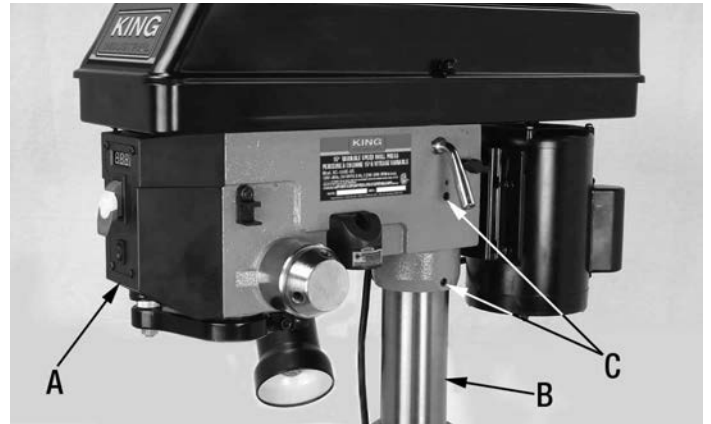

FIGURE 9
- 1) Carefully lift the head (A) Fig.9 above the column (B) and slide it down on the column as far as it will go. Align the head with the table and the base.
- 2) Using a 5 mm hex. key, tighten both head set screws (C) Fig.9 on the right side of the head.